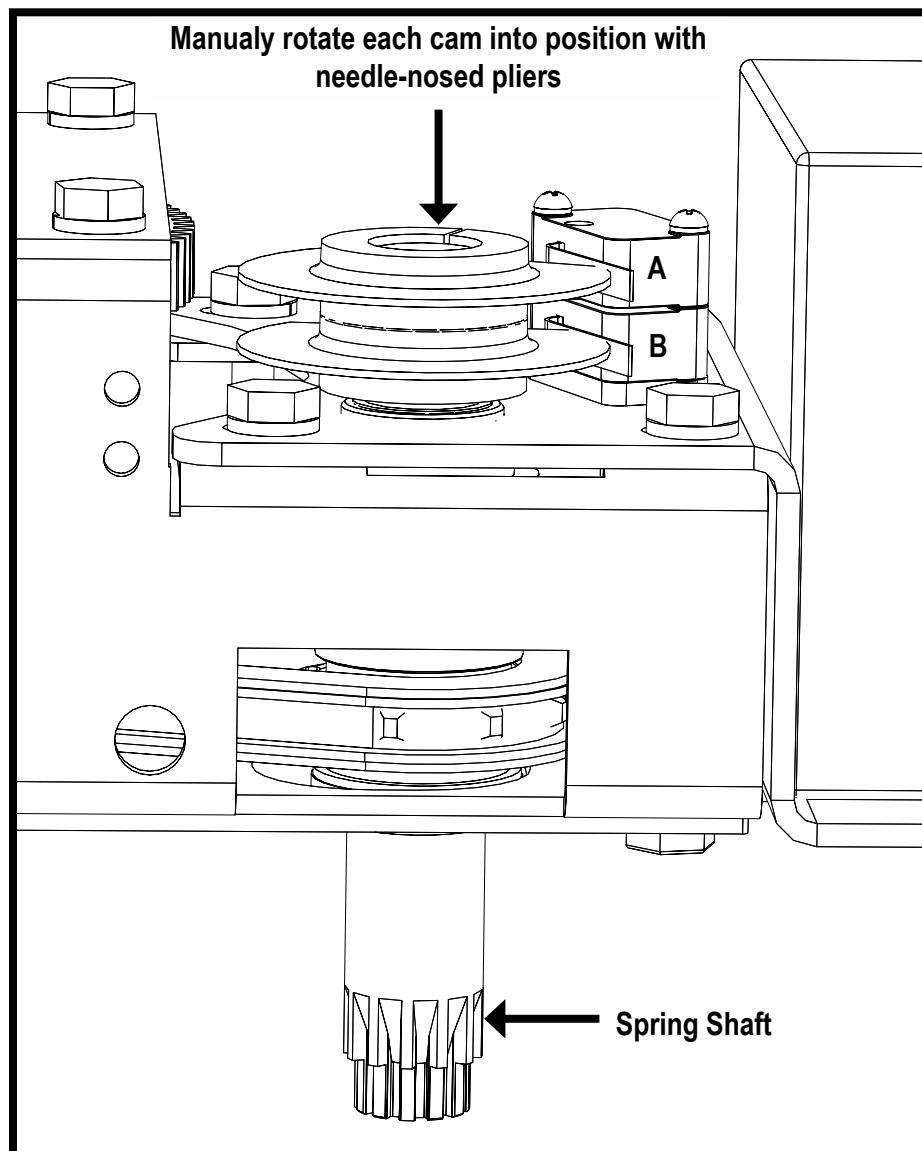

Figure 113 Cam and Switch Assembly
- 2) Brake Switch (Top Switch, Fig. 113-A)
Wire colours are Red and Green; the switch is wired normally open. As the door is closing, adjust the upper cam (Brake Switch cam Figure 113-A) so that the cam stops making contact with the microswitch when the door is 3/4" (19 mm) from the fully closed position.
- 3) Open Limit Switch (Bottom Switch, Fig. 113-B)
Wire colours are Brown and Blue; the switch is wired normally open. Adjust the lower cam (Open Limit cam Figure 113-B) so that the cam stops making contact with the microswitch when the door is in the fully open position.